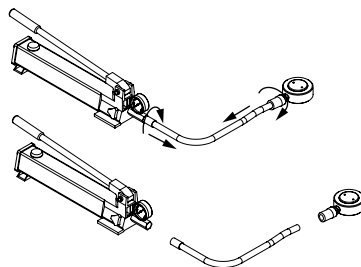

Fig. 29
5. Unscrew hydraulic hand pump (2.4) and hydraulic hose from each other and put on dust caps. (Fig. 29)